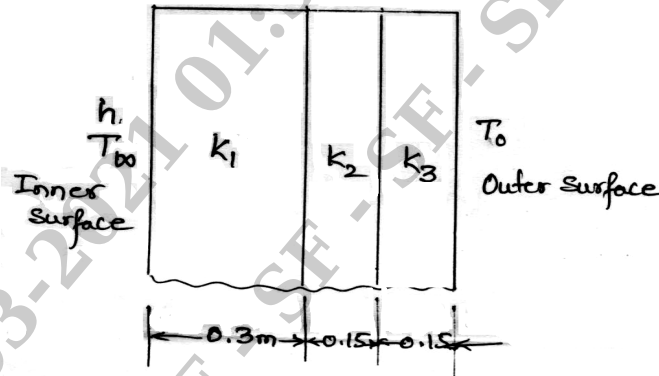

Fig Q8(b)
- b. Compute the temperature distribution in the composite wall Fig Q8(b), using 1D heat elements. Use penalty approach of handling boundary conditions. Data: $K_1 = 20 \text{ W/m}^\circ\text{C}$; $K_2 = 30 \text{ W/m}^\circ\text{C}$; $K_3 = 50 \text{ W/m}^\circ\text{C}$; $T_\infty = 800^\circ\text{C}$; $h = 25 \text{ W/m}^2 \text{ }^\circ\text{C}$, $T_0 = 20^\circ\text{C}$.